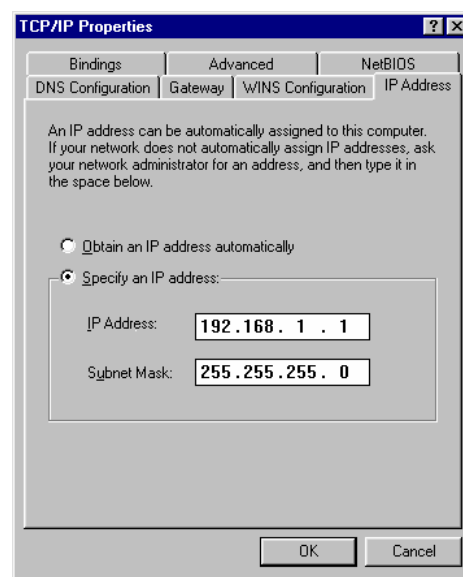

Figure 4-12 TCP/IP Properties
1. Select the proper TCP/IP network component from the list and click the "Properties" button. This will open the TCP/IP Properties window (Figure 4-12).